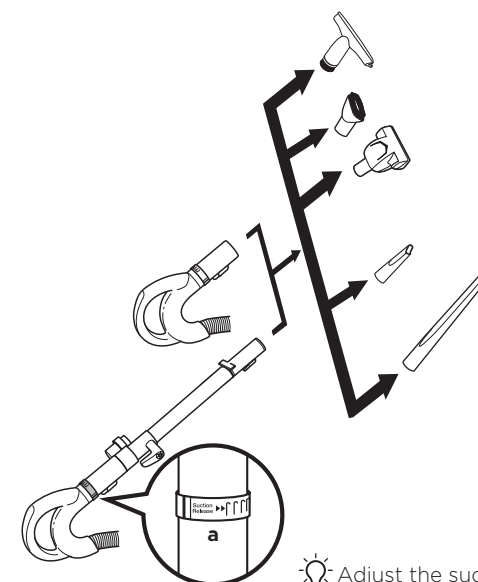

Fig. 15
- 2 Attach desired accessory onto the end of either the wand or the handle. (Fig. 15)